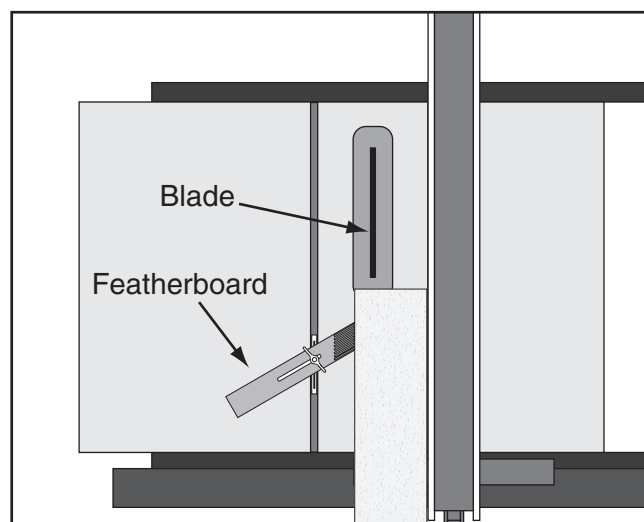

Figure 80. Featherboard installed in miter slot and supporting workpiece for ripping cut.
3. Slide featherboard miter bar into miter slot, making sure fingers slant toward blade, as shown in **Figure 80**.